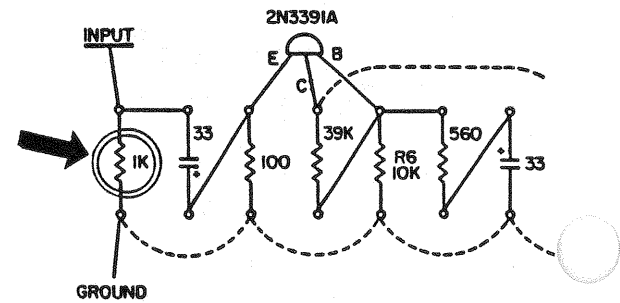

FIG. 115A
- 2) The output level of a generator can be adjusted a bit louder or softer by slightly changing the value of the input shunt resistor. A higher value increases the signal and vice versa (Fig. 115A).